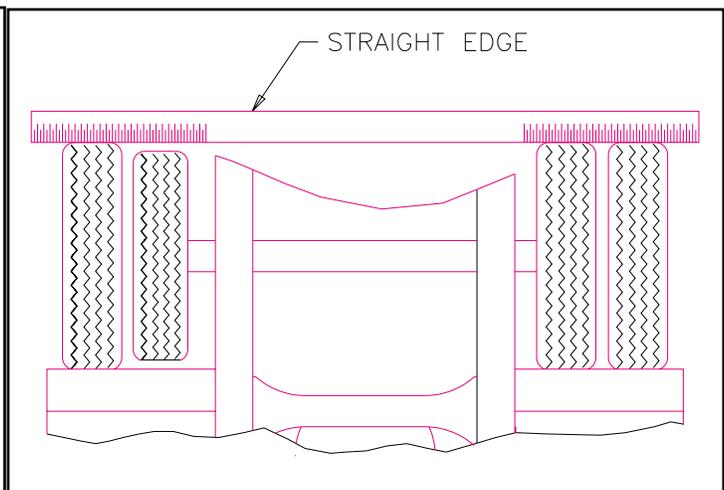

Figure 4-15 Straight Edge Method
b. **Straight Edge or String Method:** (This method cannot be used if tire and wheel assemblies are not mounted on the axle.) Jack trailer up until the wheels are off of the ground. Hold a straight edge against the tires of both ends of an axle. A gap at one tire indicates a smaller tire. A maximum of 1/8" gap is allowed (See Figure 4-15).